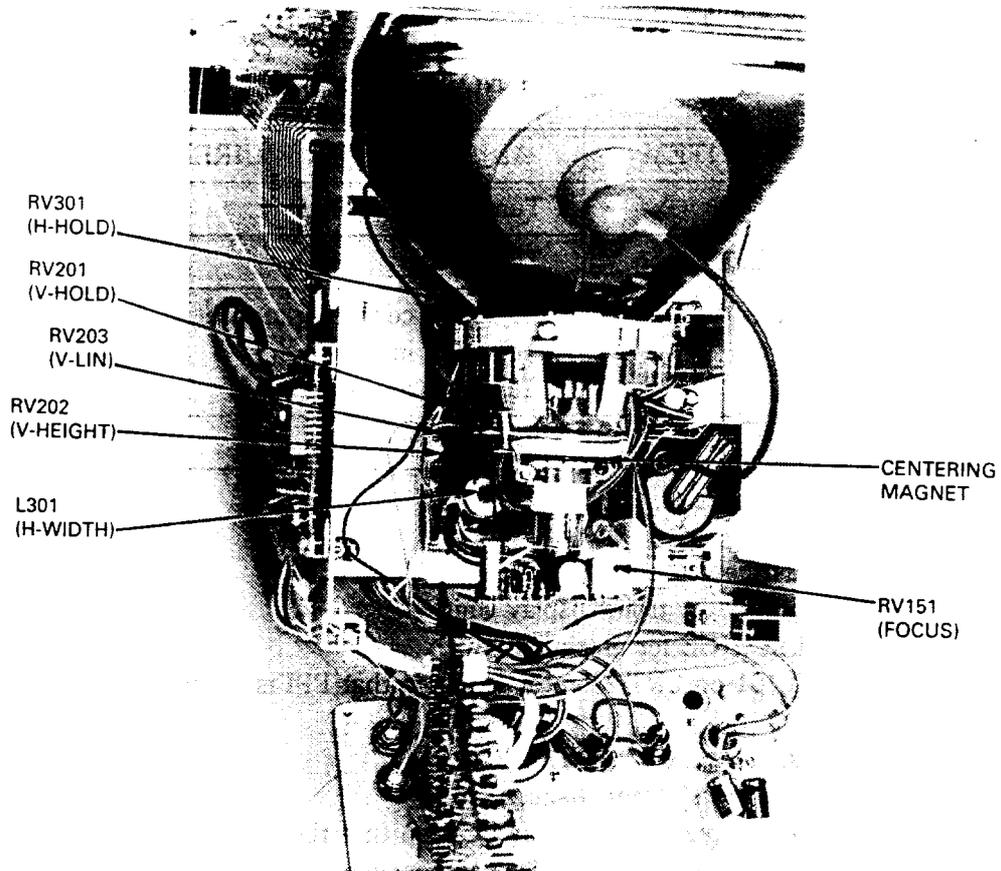

FIG. 5-1 CRT MONITOR PCB ADJUSTMENT
- 1) Intensity adjustment (See Fig. 5-1)
- 2) Focus adjustment (See Fig. 5-1)
- 6) Beam Centering adjustment on CRT (See Fig. 5-1)